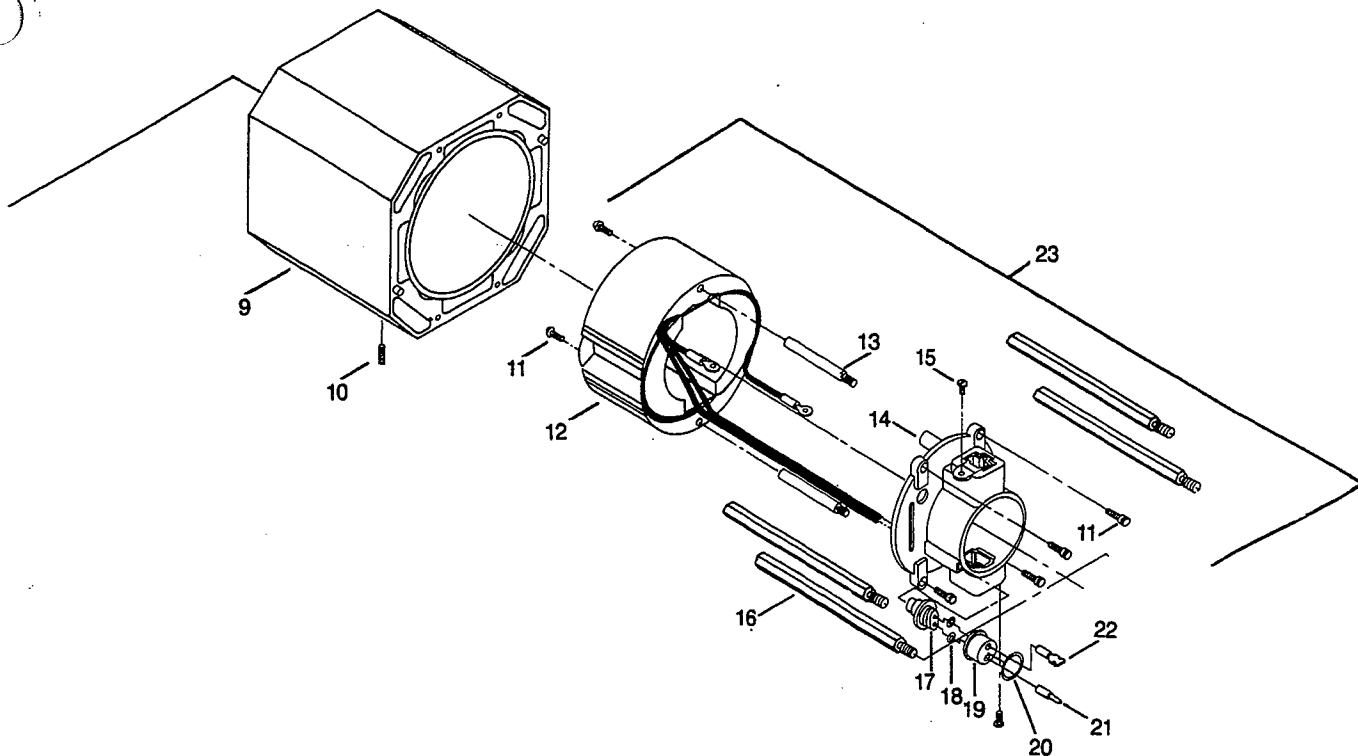

Figure 5
2. Disconnect the Power Supply Cord (#30) from; a) the On/Off Switch (#45), b) the white wire connected to the motor and, c) the green wire connected to the grounding screw (#36)). Refer to the Electrical Schematic, Figure 5.